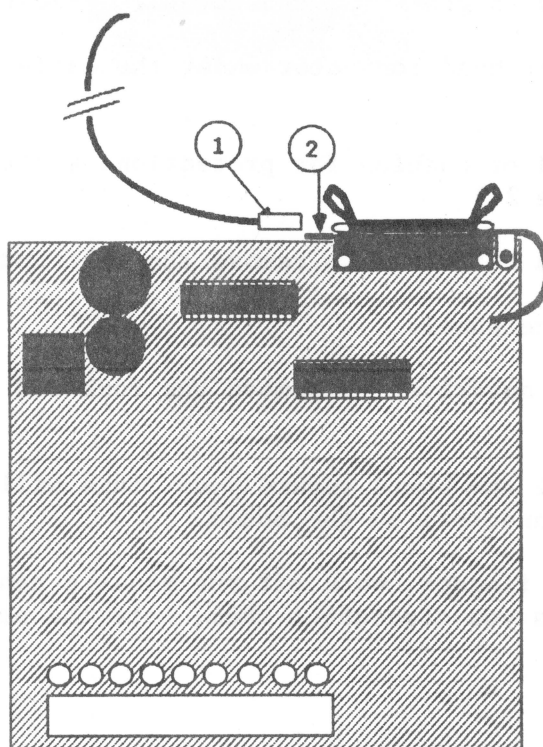

FIGURE 4
15. Slide the chassis grounding strap (Figure 4, #1) off the ground lug.
**IMPORTANT:** Leave the ground lug (Figure 4, #2) attached to the board. If you send the board to Apple for exchange, all ground lugs must be present on the board.